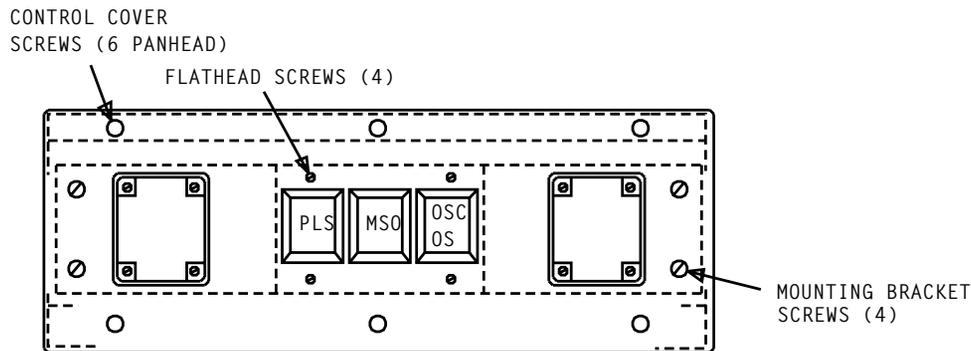

Figure 1 - Network Clock Control
- [3] At rear of frame, remove six panhead screws holding rear of NCLK chain control cover [Figure 1]
- [4] At front of frame, remove four flathead screws and NCLK control cover [Figure 1]
- [5] At rear of frame, remove four screws holding mounting bracket [Figure 1] (lower outside screw is behind capacitor cover)